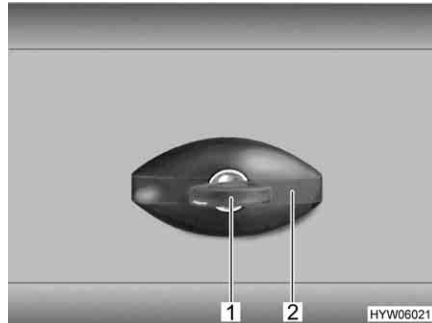

Fig. 30 Flap lock, elliptical-shaped, closed
- Insert key into locking cylinder (Fig. 30,1) and turn a quarter turn in an anti-clockwise direction. The lock handle (Fig. 30,2) snaps out.